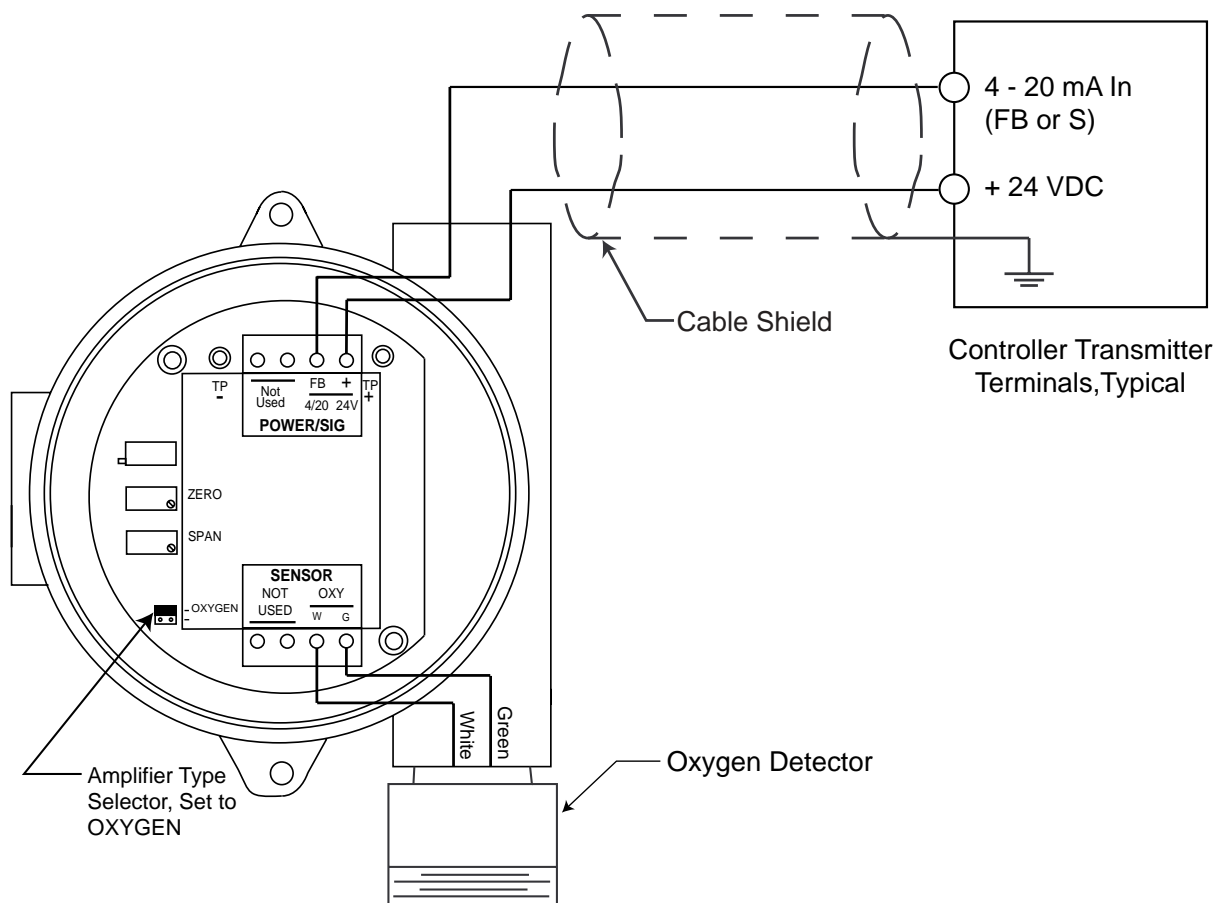

Figure 3: Wiring the Oxygen Transmitter to a Controller
4. Verify that the detector leads are wired to the amplifier's detector terminal strip. If necessary, connect the leads to the detector terminal strip as shown in Figure 3.
5. Verify that the jumper block is installed over the **OXYGEN** selector of the amplifier type selector as shown in Figure 3.
8. Connect the two wires to the interconnect terminal strip as follows (see Figure 3.)
11. Connect the wires to the applicable transmitter terminal strip at the controller as shown in Figure 3.
7. Connect the detector leads to the amplifier's detector terminal strip as shown in Table 3 below and Figure 3 on page 9 of this manual.
10. Reconnect the wiring that connects the controller and oxygen transmitter to the amplifier's interconnect terminal strip as shown in Table 4 below and Figure 3 on page 9 of this manual.
11. Reconnect the detector leads to the amplifier's detector terminal strip as shown in Table 5 below and Figure 3 on page 9 of this manual.